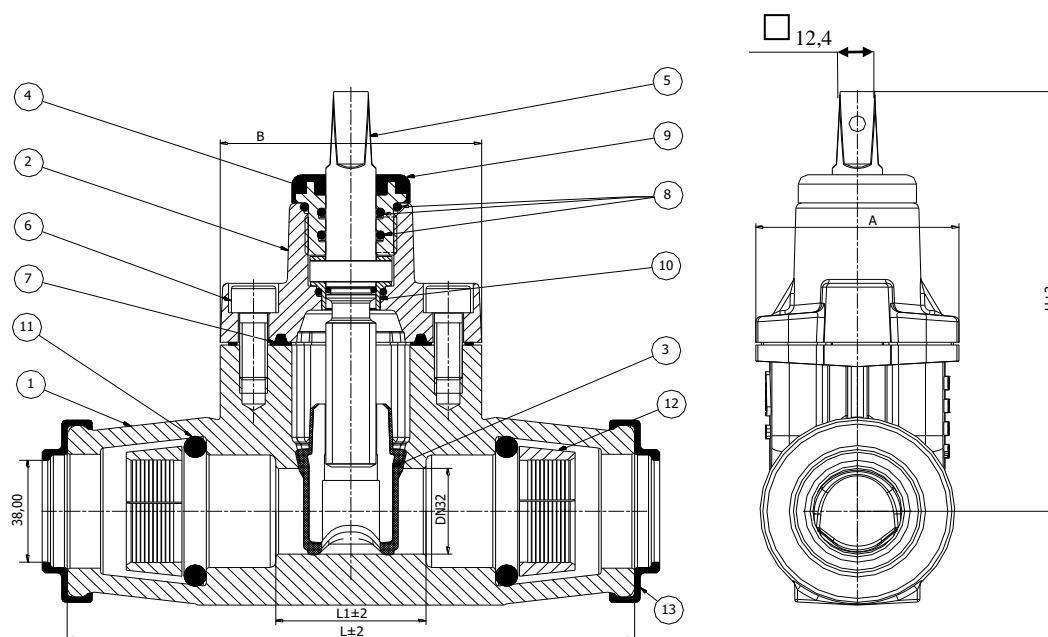

Fig. 1 The construction of the gate valve with connections to PE pipes.
1.3. Design and operation (Fig.1, Tab.2, Tab.3)